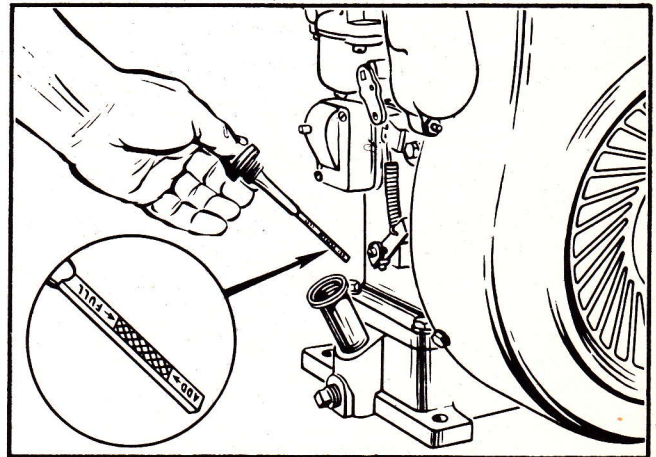

Figure No. 3
1. With the engine in a level position remove the oil filler cap and pour oil into the filler neck opening. Approximately 3 pints of oil are required for the 1600 and 4 pints for the 2500 engine, to bring the oil level up to the full mark on the dipstick. (Check oil level often to be sure it is above the 'add' mark on the dipstick.) (See Figure No. 3.)